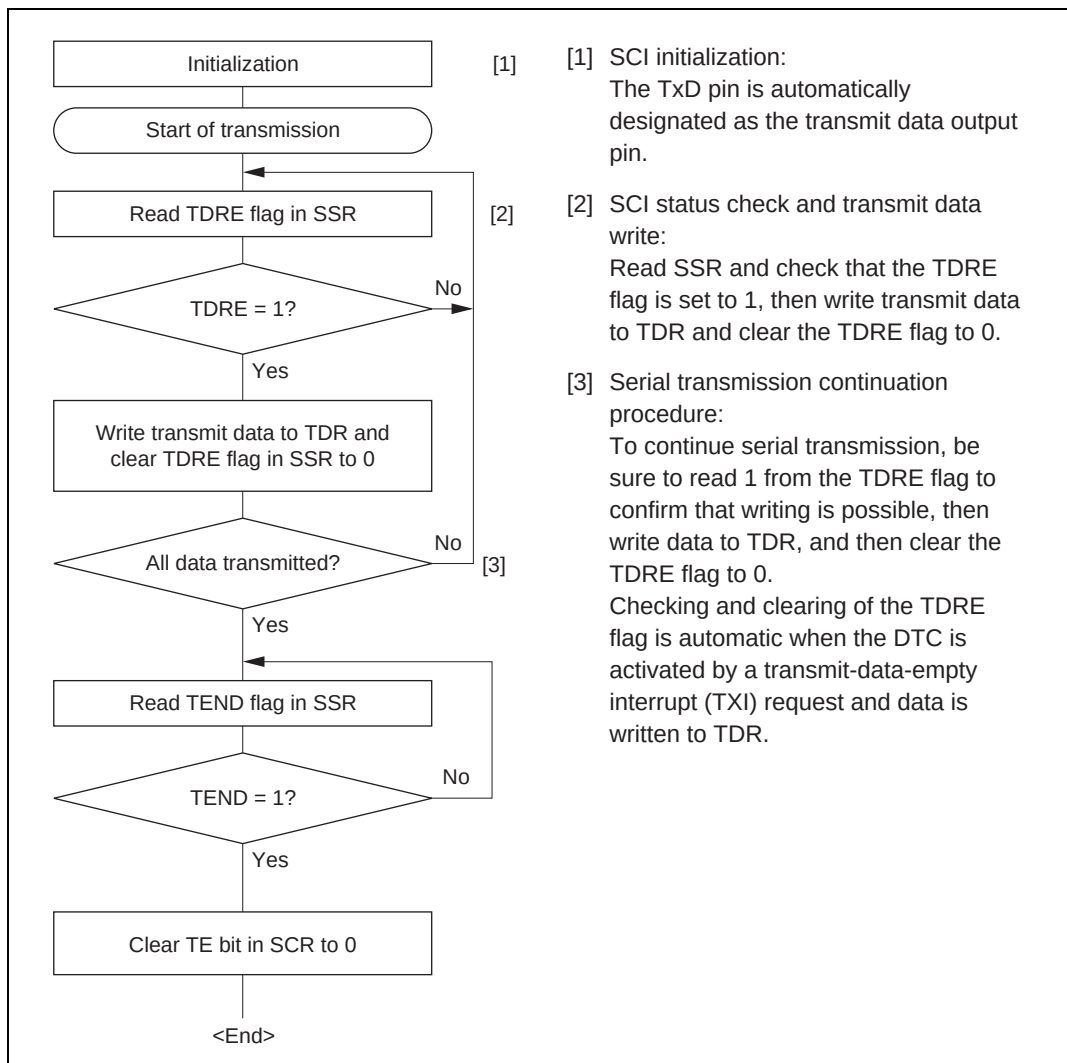

**Figure 12.16 Sample Serial Transmission Flowchart**
**Serial data transmission (synchronous mode):** Figure 12.16 shows a sample flowchart for serial transmission.